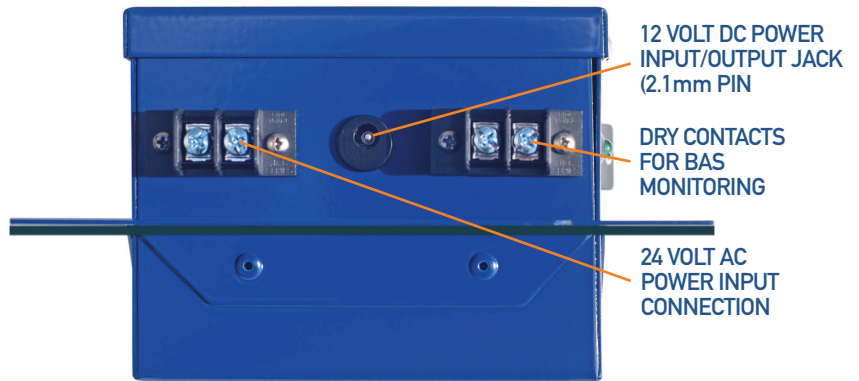

FIGURE 2 – Left view of ionizer
- 24V AC power may be connected directly to the terminal block on the outside of the unit. The hot and neutral wires can be connected to either screw terminal. (see figure 2)
The model 7100, 7200, 7300 and 7400 ionizers include a monitoring circuit to verify operation status. The circuit consists of a relay with isolated normally open contacts. The contacts remain open whenever the ionization unit is not powered or if there is a fault in the equipment. The contacts close whenever the ionizer is energized. Connect the monitoring control wires to the BAS Alarm Contacts on the unit. (See figure 2)